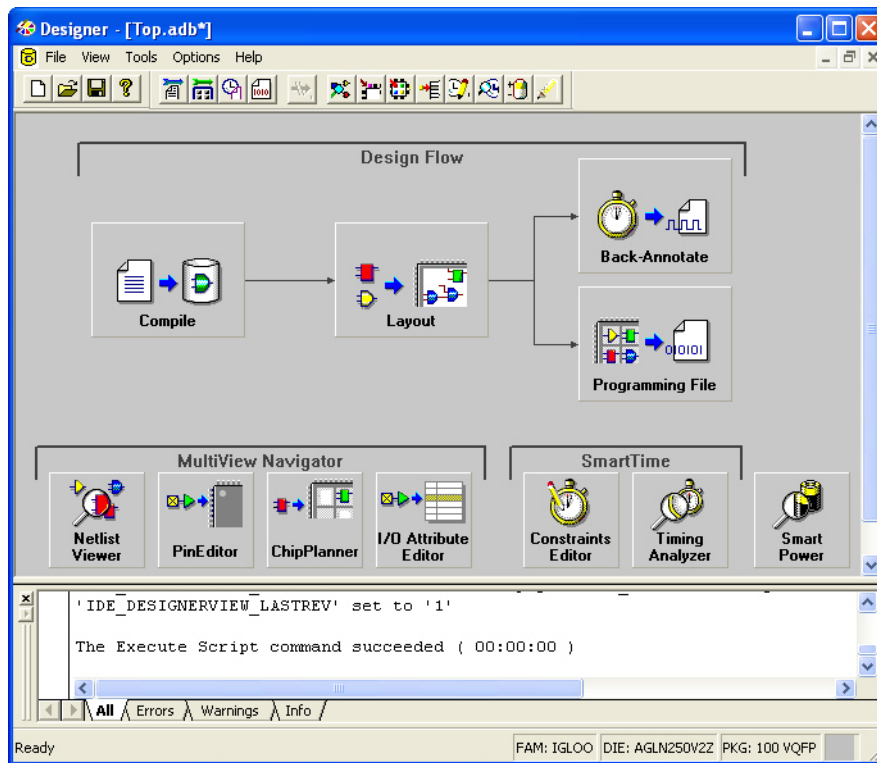

Figure 1-32 • Designer GUI
- Click the **Compile** button in the Designer GUI to compile the design (Figure 1-32). Compile contains a variety of functions that perform legality checking and basic netlist optimization. It also calculates and displays the utilization of the design for the selected device.